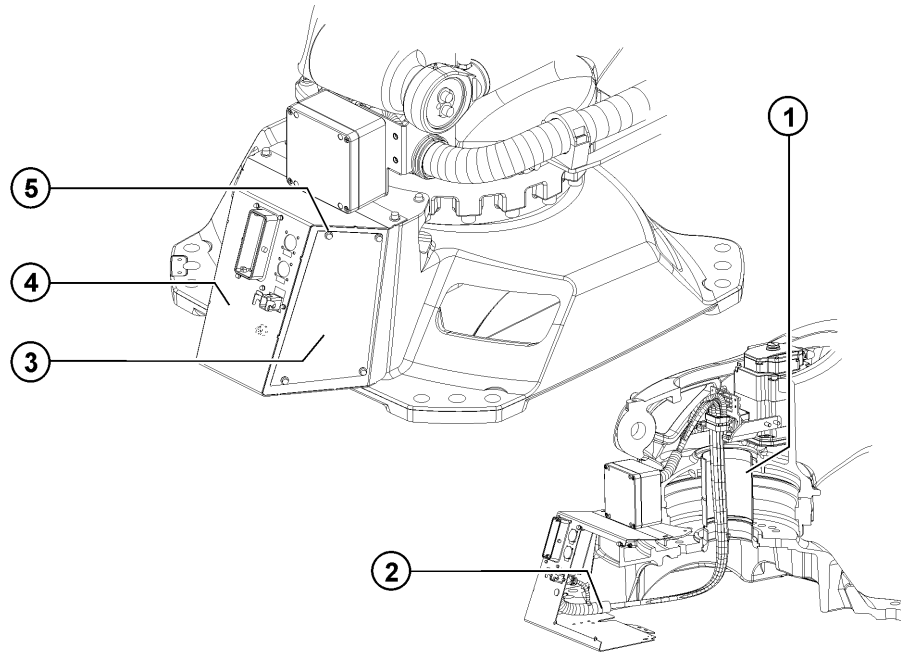

Fig. 9-8: Greasing the cable set
1. Remove 4 Allen screws with conical spring washers, and take off the cover. If necessary, interface A1 can additionally be carefully pulled back (>>> Fig. 9-8).